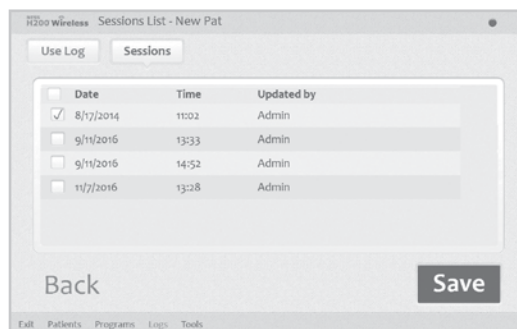

Figure 8-34: Sessions List Window
2. Press the Sessions tab. The Sessions List window will open, showing the date, time, and system user for each saved session. See Figure 8-34.